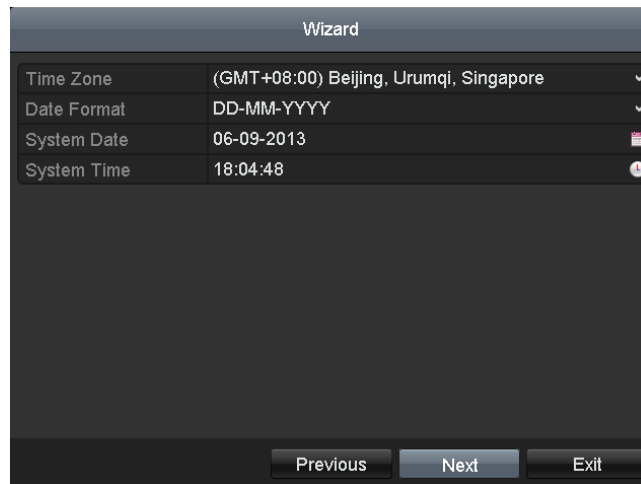

Figure 2.3 Date and Time Settings
5. Click **Next** to enter the date and time settings window, as shown in Figure 2.3.